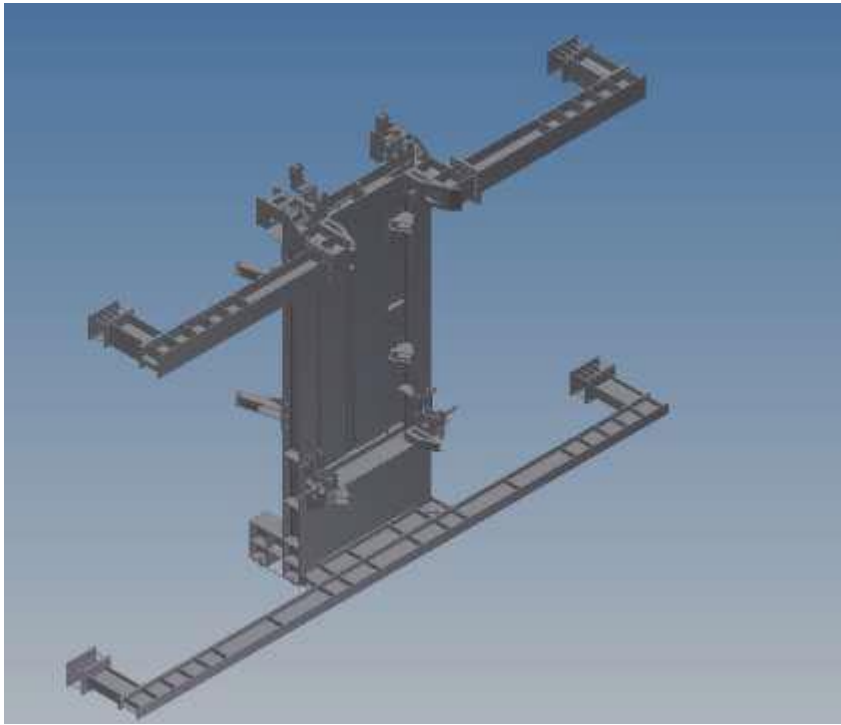

Figure 1.2.1 Gooseneck Interface Frame
- Gooseneck Interface Frame (Figure 1.2.1)